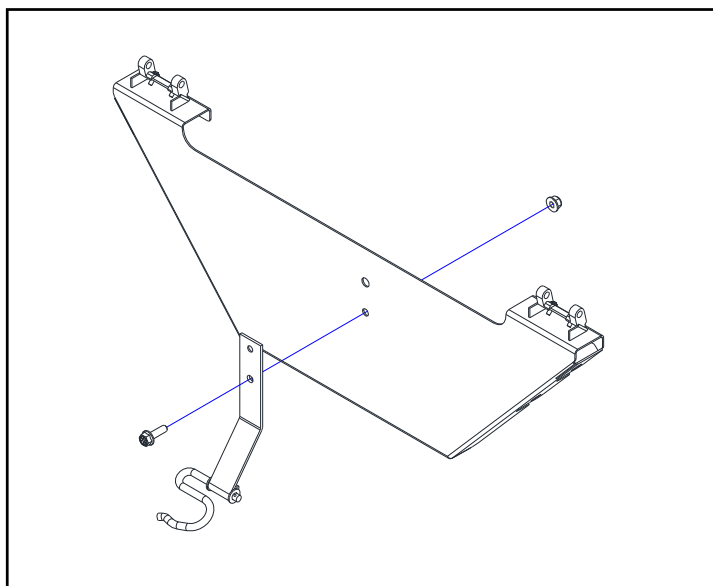

Fig. 1.2
1.2 Using the hardware listed below, install the rear hitch bracket onto the lower rear panel, as shown in Figure 1.2.